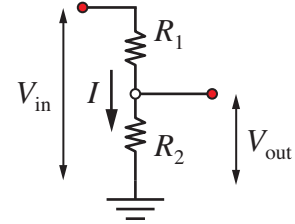

Figure 3: Current flows in a voltage divider when $I_{\text{load}} = 0$.
If the load resistance is infinite, I_{load} will be zero. There are practical applications where I_{load} is so small that its affect on the operation of the voltage divider is negligible. Figure 3 shows the current flow in a voltage divider with an infinite load resistance.
If we assume that the load current is negligible, then Equation (1) shows that $I_1 = I_2$. When $I_{\text{load}} = 0$ all the current supplied by the voltage source V_{in} flows to ground through the series combination of R_1 and R_2 . Let that current be called I . In other words, $I_1 = I_2 = I$ as shown in Figure 3.